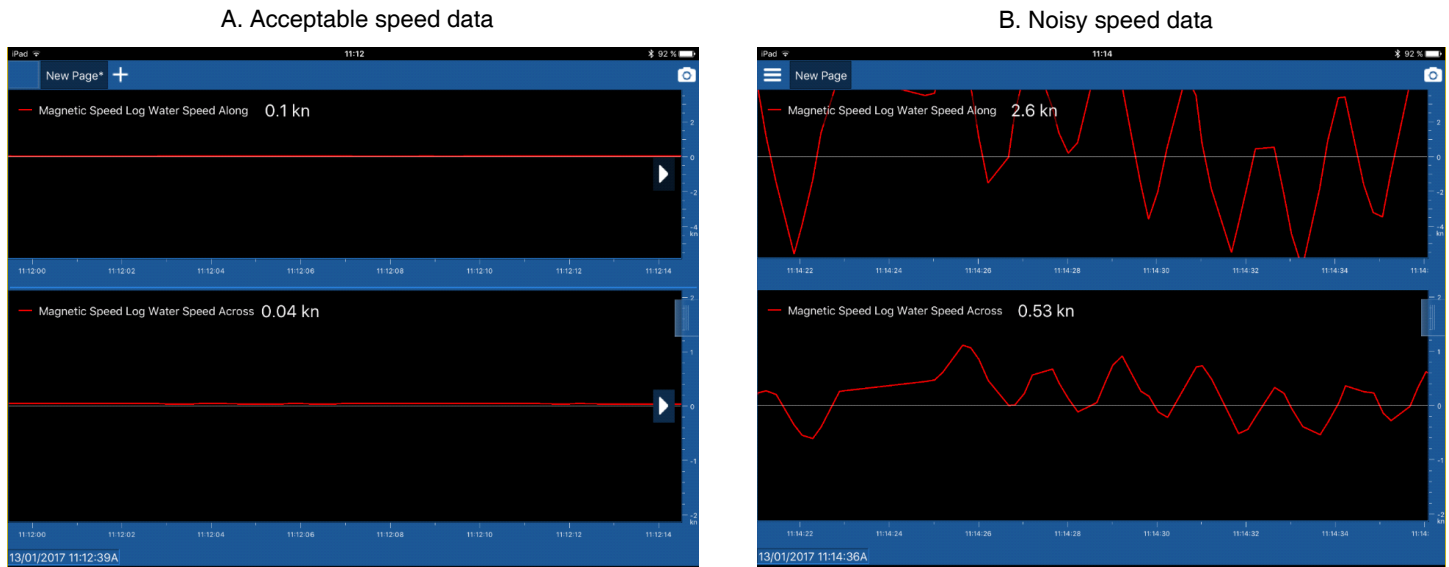

Figure 8. Checking speed data for electromagnetic noise
4. Create a display page of history plots with longitudinal and transverse speed data (Figure 8).